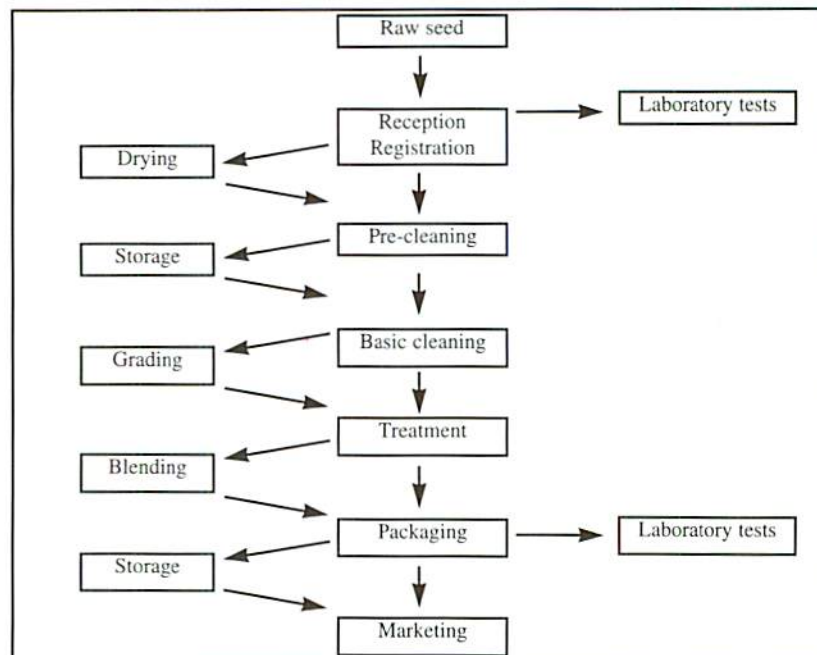

Fig. 2. Flow of seed within the processing plan
- Principle 5** *Satisfactory cleaning requires that seed lots be processed in a specific sequence:* pre-cleaning, basic or fine cleaning, and grading. It may not be necessary for every seed lot to pass through all machines. The choice and sequence of the machines to be used depend on: (i) the kind of seed being processed, (ii) the amount, nature, and kind of contaminants present in raw seed and (iii) quality standards that must be met (Fig. 2).